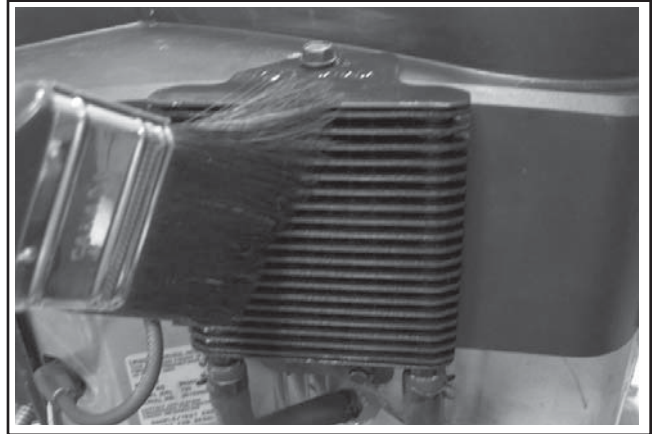

**Figure 6-6. Oil Filter Location.**
4. Remove the old filter and wipe off the filter adapter with a clean cloth. See Figure 6-6.